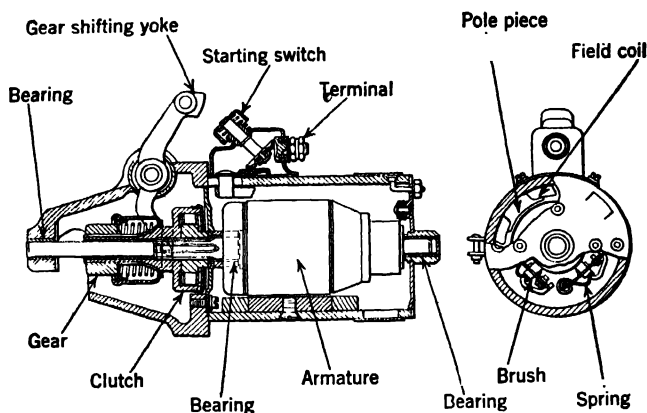
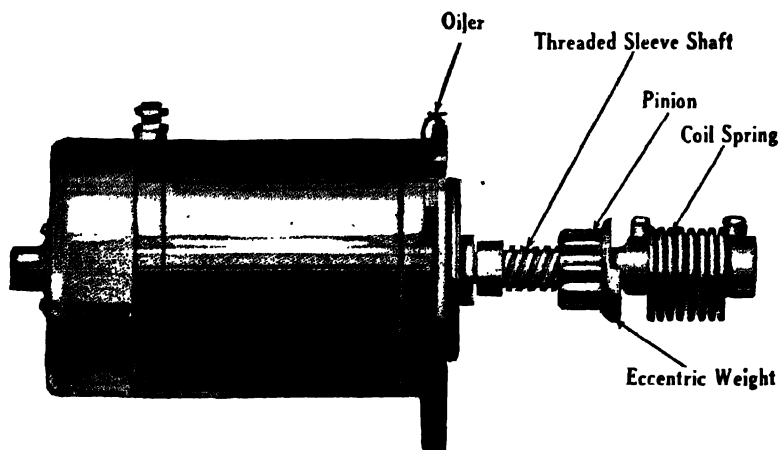

FIG. 155.—Starter Motor with Mechanical Engagement of Pinion and Flywheel Gear. (Marmon.)
FIG. 156.—Bendix Drive on Starting Motor.
Figure 155 shows a starter and its driving mechanism. The pinion is shifted into mesh when the foot pedal is pressed down.
Bendix Drive.—With the Bendix drive (Fig. 156) the power developed by the starting motor is transmitted to the engine flywheel through an automatic screw shift pinion which is mounted on an extension of
The drives most commonly used to connect the starting motor to the flywheel are: (1) The Bendix drive (Fig. 156); (2) the sliding pinion used on Delco single unit systems, Buick cars (Fig. 22e, p. 232); and the starters of two-unit systems employed on numerous cars (Fig. 155).